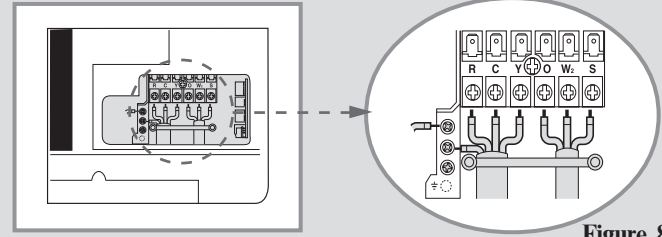

Figure 8
- Connect the electrical connection cord with the screws to the terminal block of the indoor unit as described at Figure. 8.